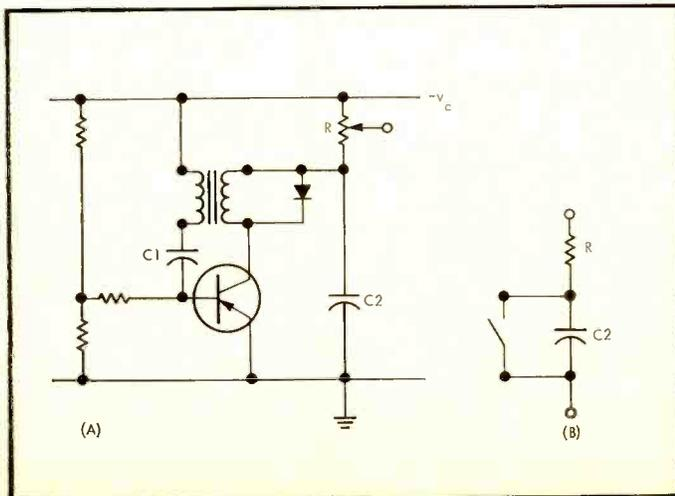

Fig. 8 (left). (A) Blocking oscillator which acts as if it were (B) a switch-RC circuit to produce a linear saw-tooth wave.
The simplest form of sawtooth generator is a blocking oscillator, with a typical circuit shown in (A) of Fig. 8. The transformer provides positive feedback and when the transistor starts to conduct it is driven into bottoming. The capacitor C_1 cannot maintain the necessary base current, however, and the current begins to fall, bringing the transistor out of bottoming and driving it to cut-off, with aid from the regeneration. In fact we must use the diode shown across the transformer, in order to prevent the cut-off action producing high peak collector voltages, and this gives us regeneration only for one direction of movement. Even so, the circuit can be taken as providing the switch-RC circuit shown in (B) of Fig. 8, in which the switch is self-driven. Provided that the switching period is short compared with the time-constant RC, this circuit will give a linear sawtooth.